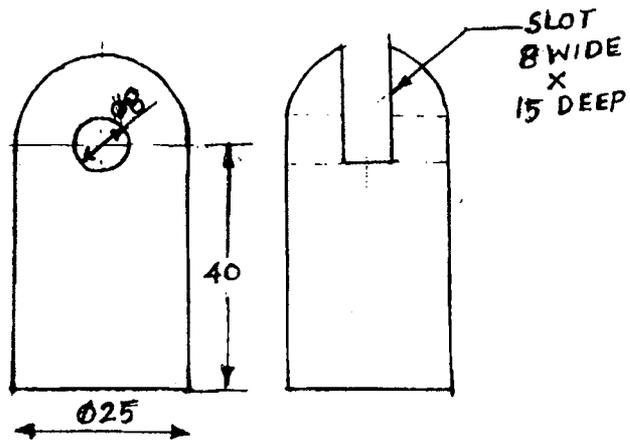

Fig. 4
- (b) Design and draw atleast two views of a milling fixture for making a slot of 8 mm wide \times 15 mm deep on a dome pin as shown in Fig. 4. Number the parts and prepare part list.